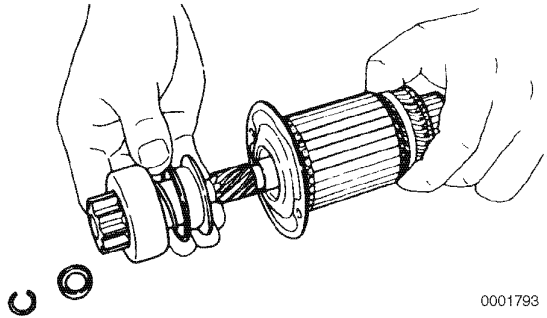

Figure 10-31
3. Install the retaining ring in groove in the shaft. Slide the pinion stop over the retaining ring (**Figure 10-31**).